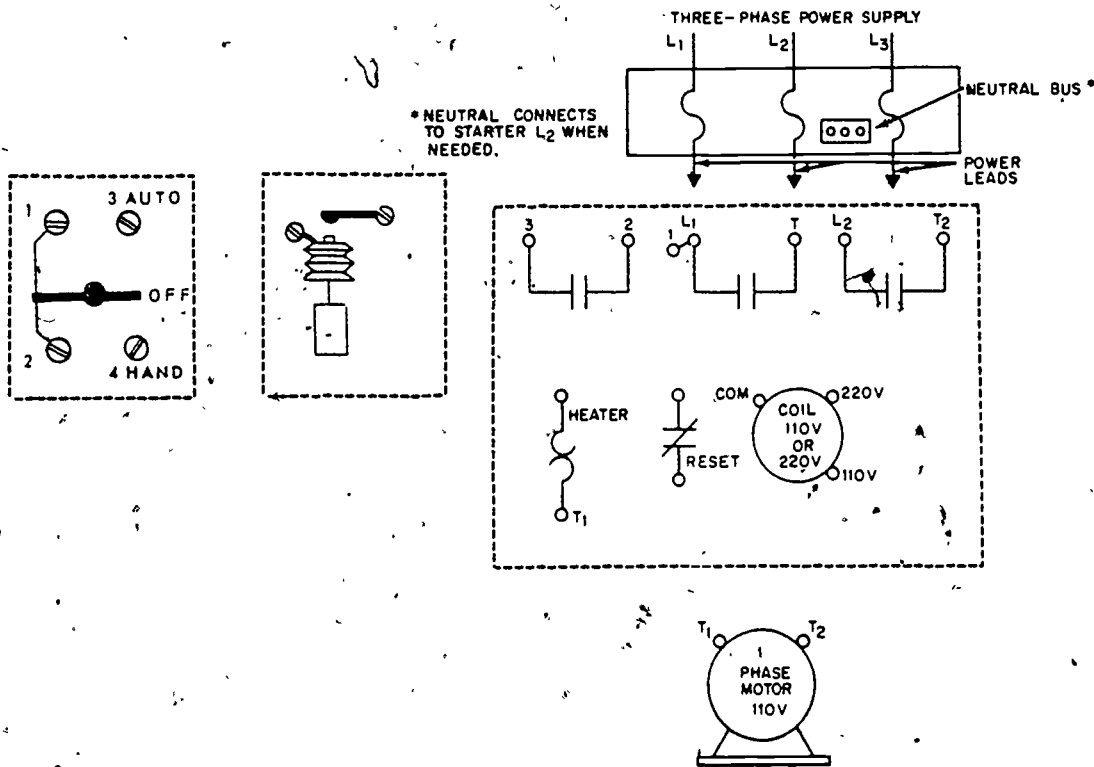

Figure 33. Connecting a Single-Phase Starter with a Thermostat and a HOA Switch
Step 1. Complete the following diagram in figure 33.
Step 2. Using the diagram you have just completed, figure 33, add a HOA switch to the control system now installed on your trainer.